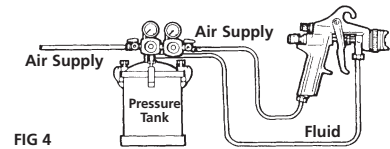

FIG 4
**PRESSURE TANK WITH 2 REGULATORS (Figure 4)**